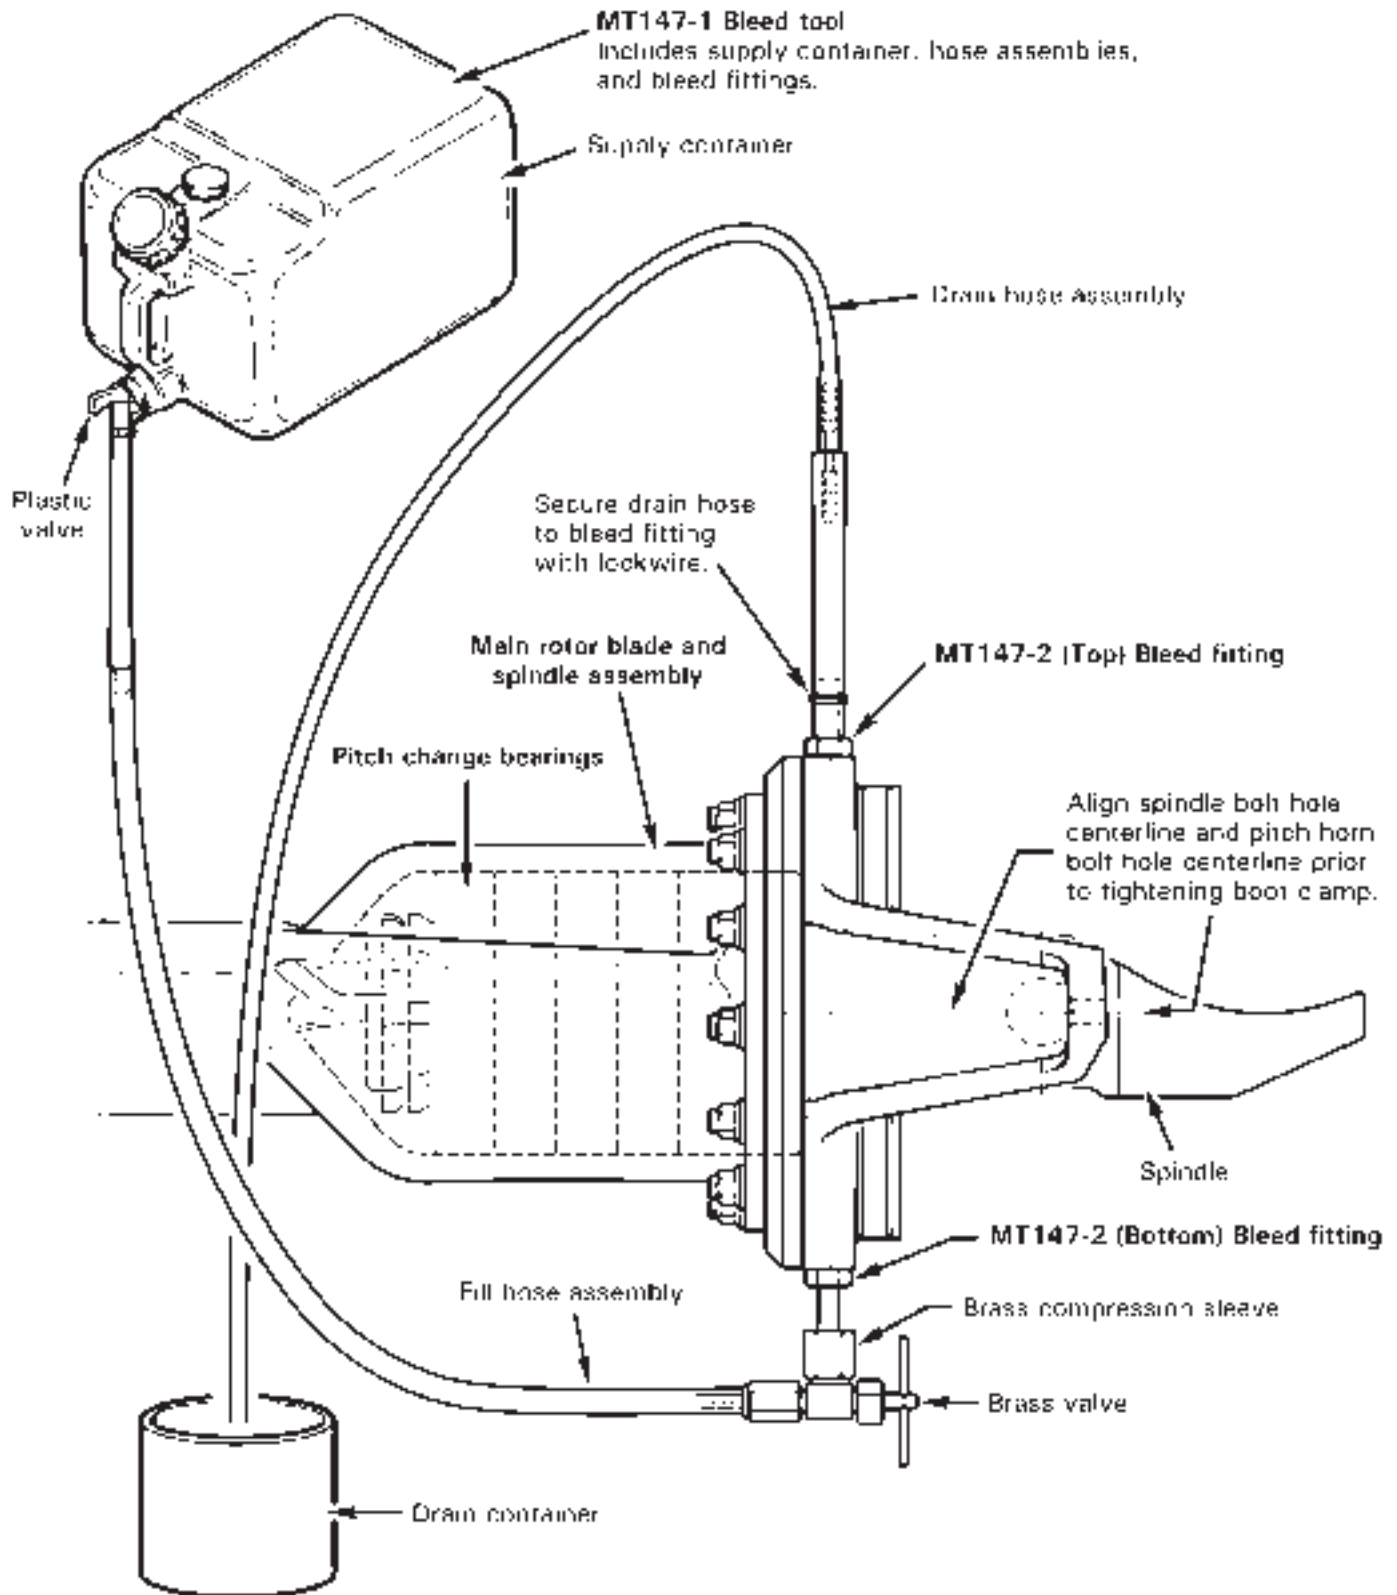

FIGURE 9-4 FILLING PITCH BEARING HOUSING
3. Stretch boot outer lip over pitch horn flange. Rotate spindle and align pitch horn bolt hole with spindle bolt hole per Figure 9-4. Install C165-2 (outer) clamp assembly and tighten clamp. Verify security.
2. Refer to Figure 9-4. Place a suitable drain container below main rotor pitch horn. Remove two B289-2 bolts from pitch horn and drain fluid.